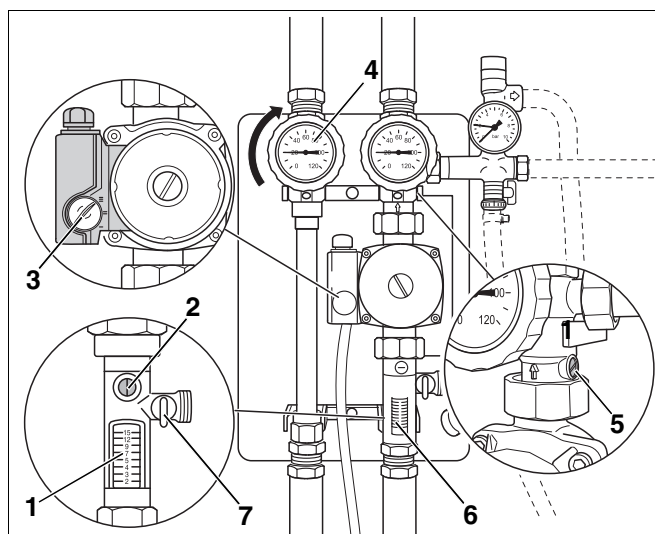

Fig. 18 Adjust the flow rate
- ▶ Turn the slot of the adjusting screw (Fig. 18, **Item 5**) in the return horizontally to close the non-flow valve.
- ▶ Turn the l.h. ball valve with integral thermometer in the flow (Fig. 18, **Item 4**) as far as it will go in the direction indicated by the arrow to close the non-flow valve.
- ▶ Turn the slot of the adjusting screw (Fig. 18, **Item 2**) in the return vertically to open the flow limiter (Fig. 18, **Item 6**).
- ▶ Check the flow rate through the flow limiter sight glass (Fig. 18, **Item 1**).
- ▶ To set the flow rate in advance, adjust the circulation pump step switch (Fig. 18, **Item 3**) so that the required flow rate is achieved or exceeded with the lowest possible step.
The flow limiter adjusting screw (Fig. 18, **Item 2**, page 22) is used to fine-tune the flow rate.
- ▶ Close the adjusting screw of the flow limiter (Fig. 18, **Item 2**, page 22) with a screw driver, until the edge of the float in the sight glass indicates the recommended flow rate.